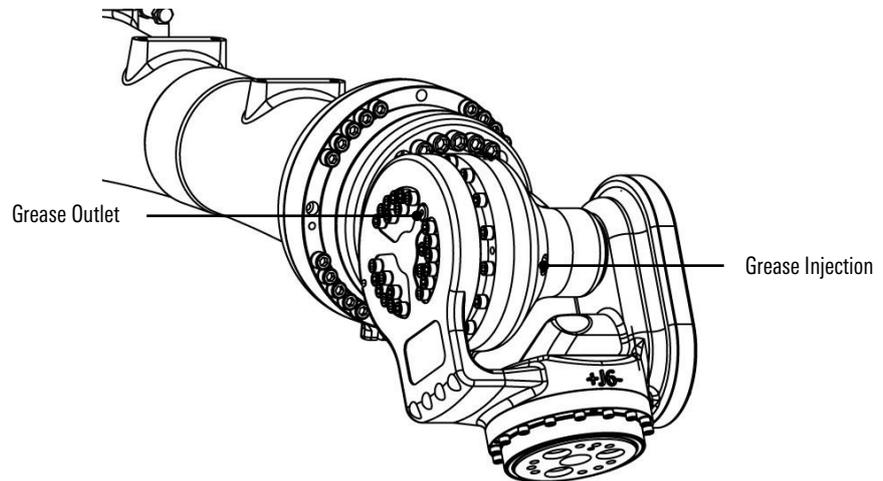

Figure 13-9 Replace the lubricating grease of J5 axis reducer and gear case
- Remove the grease outlet M10x1 plug, as shown in Figure 13-9.